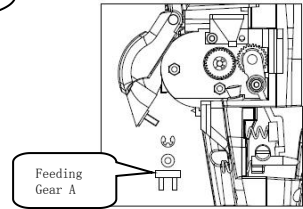

Fig. 3
3). Use plier to take down the E-ring and washer fixed on feeding gear A, then take it out (Fig. 3)